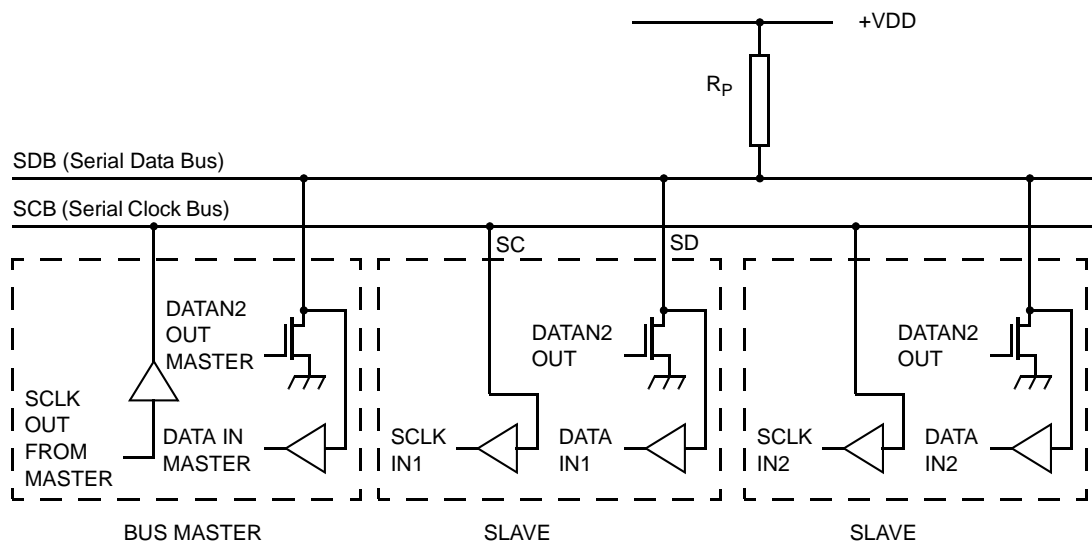

Figure 19: Connection of Devices to the Bus
The CH7004 contains a standard serial control port, through which the control registers can be written and read. This port is comprised of a two-wire serial interface, pins SD (bi-directional) and SC, which can be connected directly to the SDB and SCB buses as shown in **Figure 19**.
The Serial Clock line (SC) is input only and is driven by the output buffer of the master device (also shown in **Figure 19**). The CH7004 acts as a slave, and generation of clock signals on the bus is always the responsibility of the master device. When the bus is free, both lines are HIGH. The output stages of devices connected to the bus must have an open-drain or open-collector to perform the wired-AND function. Data on the bus can be transferred up to 400 kbit/s.
The electrical specifications of the bus devices’ inputs and outputs and the characteristics of the bus lines connected to them are shown in **Figure 19**. A pull-up resistor (R_p) must be connected to a $5V \pm 10\%$ supply. The CH7004 is a device with input levels related to V_{DD} .